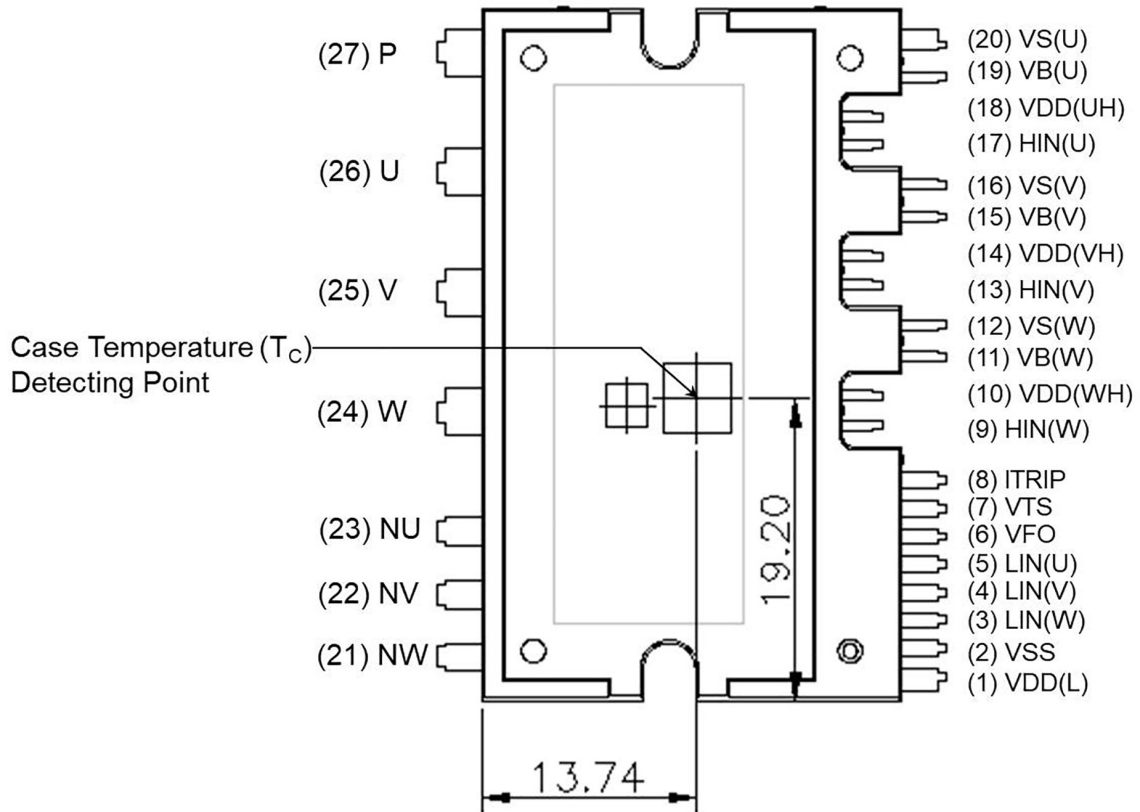

Figure 1. Pin Configuration
- 1200 V – 30 A IGBT inverter for three-phase DC / AC power conversion (Please refer to Figure 1)